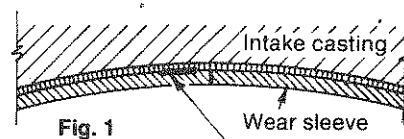

Fig. 1
- (a) Find the joint in the wear sleeve and force a fine screw driver between the sleeve and the intake casting adjacent to the joint until the end of the sleeve is free (Fig.1 and 2.) Pull the end of the sleeve inwards and remove it from intake.